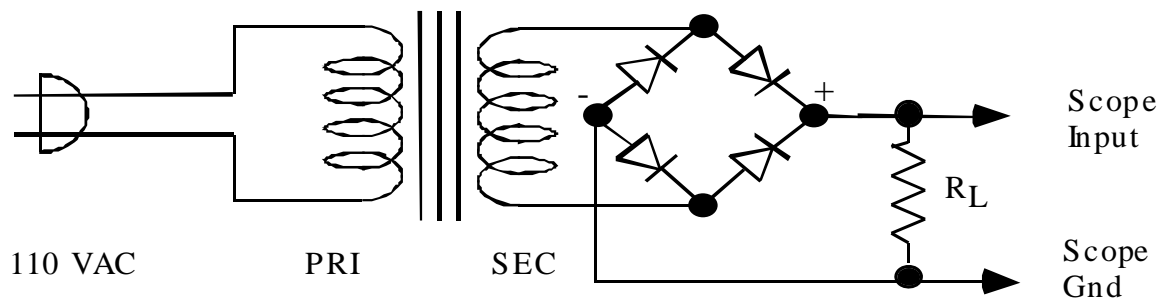
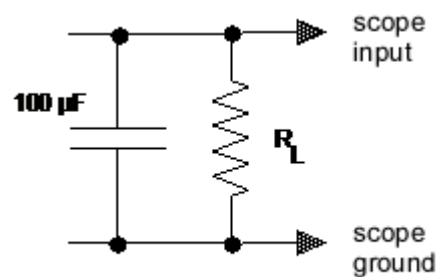

Figure 3.3. Full-wave rectifier bridge circuit. The input is 110 VAC line voltage.
Figure 3-4 Filter Capacitor
- \* – Measure the output waveform of the full-wave *bridge circuit* in Figure 3-3. Do not attempt to measure the input waveform. Use a  $1\text{ k}\Omega$  load resistor.
\* Starting with the full wave rectifier circuits in Figure 3-3, add a capacitor  $C = 100\ \mu\text{F}$  across the load resistor as shown in Figure 3-4. Note that capacitors of such a large value are polarized: one of the capacitor's two leads is marked – or +.